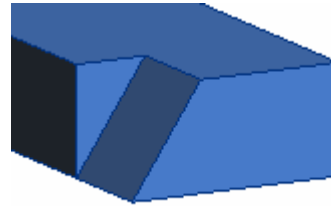

Figure 10. Remove material for Dovetail.
23. Figure 10 shows the completed notch with material removed.